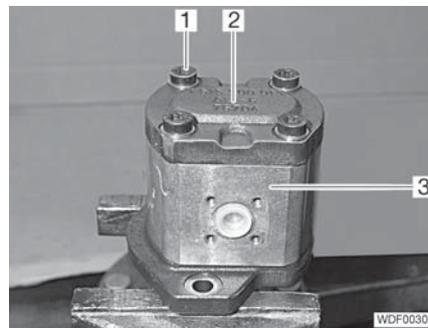

Fig. 148 Gear pump housing
- Unscrew the 4 screws (Fig. 148,1).
- Remove the cover (Fig. 148,2) and place it aside.
- Carefully remove the housing (Fig. 148,3) and place it aside.
- Pull the housing (Fig. 148,3) over the internal components.
- Place the cover (Fig. 148,2) onto the housing.
- Screw in the 4 screws (Fig. 148,1) with washers and tighten.